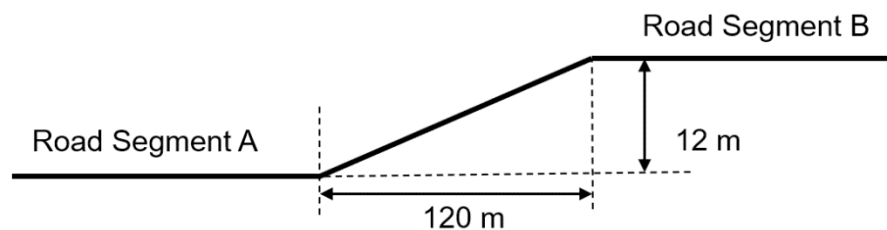

Figure Q5
- (b) A dual-lane, two-way connector is envisioned to link the level Road Segment A to the level Road Segment B, as shown in Figure Q5. To determine its feasibility, several key factors should be taken into consideration. The driver reaction time is set at 2.5 seconds, the standard driver eye height is 1.050 metres, the tyre-pavement friction coefficient stands at 0.35, the designated object height for stopping is 0.15 metre, and the ramp is designed for a speed of 54 km/h. Perform applicable calculations to check if it is feasible to develop the connector.